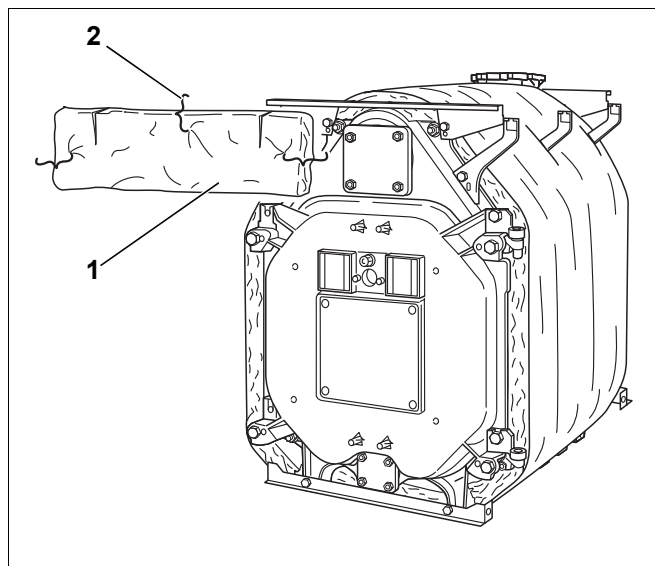

Fig. 44 Installing the front thermal insulation
- Fit the rectangular thermal insulation (Fig. 44, **[1]**) with cut-outs to the top front above the door.
- Secure the thermal insulation with three spring clips (Fig. 44, **[2]**) to the block thermal insulation.